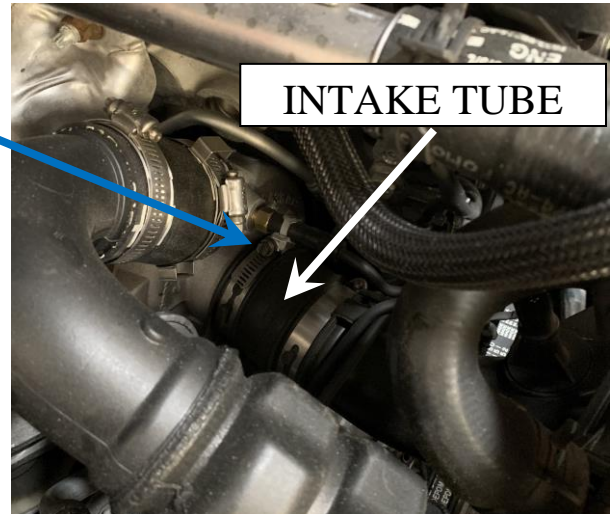

Fig 5.
7. Locate the inlet tube worm clamp attached to the factory turbo. See Fig. 5